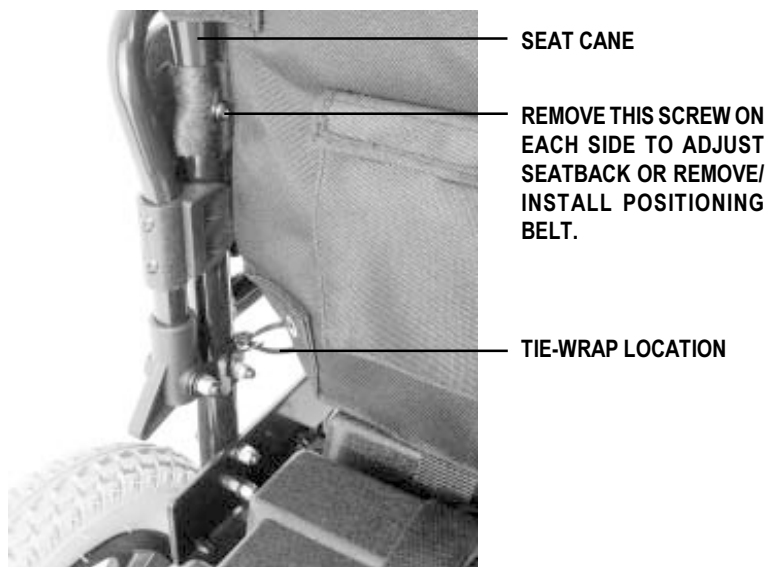

Figure 23. Seatback
2. Depending on the position of the seat and the length of the tie-wrap, you may have to cut the tie-wraps that fasten the seatback to the frame. See figure 23.